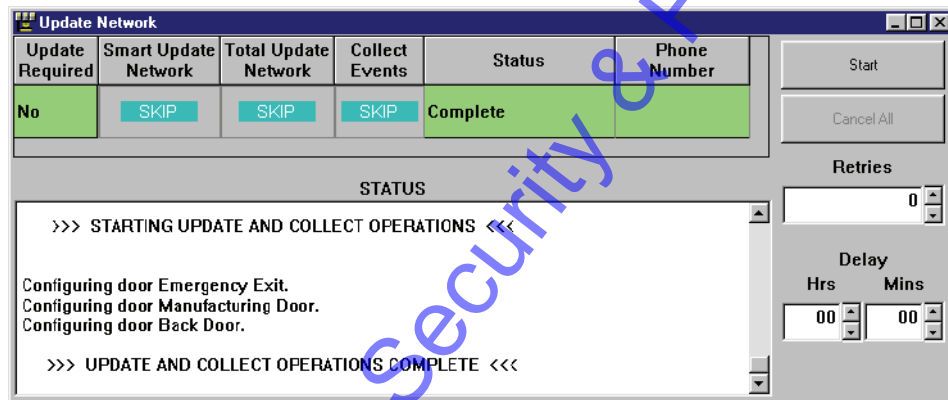

Figure 5-36: Successful Network Update
4. Once the connection is made, the progress of the update may be viewed through the Status windows. The status windows will indicate when the update is complete (see Figure 5-36).